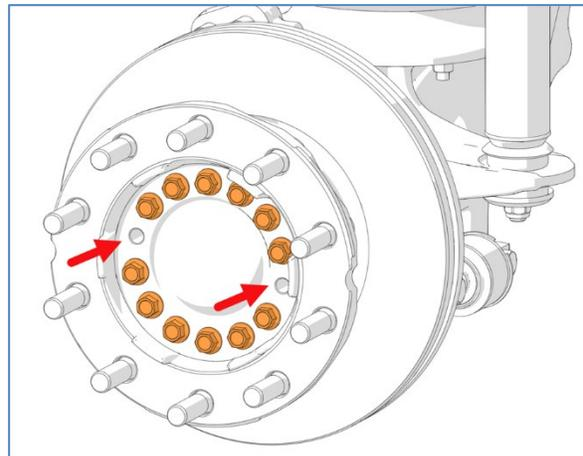

Figure 10
7. Remove 2 diametrically opposed hub flange cap screws (Figure 10).